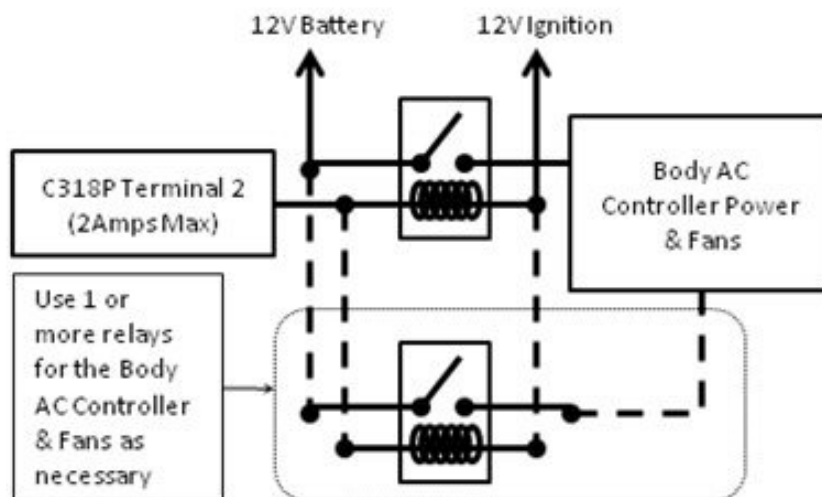

Figure 34: C318P Terminal 2 Connection
**C318P terminal 2 should be connected to the control side of a 12V relay(s)** (Figure 34). The other control side of the relay(s) shall be connected to ignition power. The control side can sink a maximum of 2 Amps. On the switched side of the relay(s) the pole shall be connected to 12V battery power and the normally open side to the 12V supply side of the Body AC Fans & Controller. This signal is used to control Body AC if the vehicle enters a derated mode. The SUB builder will be required to supply Yazaki Socket terminal (0.75-1.00sqmm) P/N: 7116-4101-02 for terminal 2 of the EPC 2 position connector and 12V relay(s) equivalent to Tyco P/N: VF4-65F11-S05 for control of the Body AC Fans & Controller.